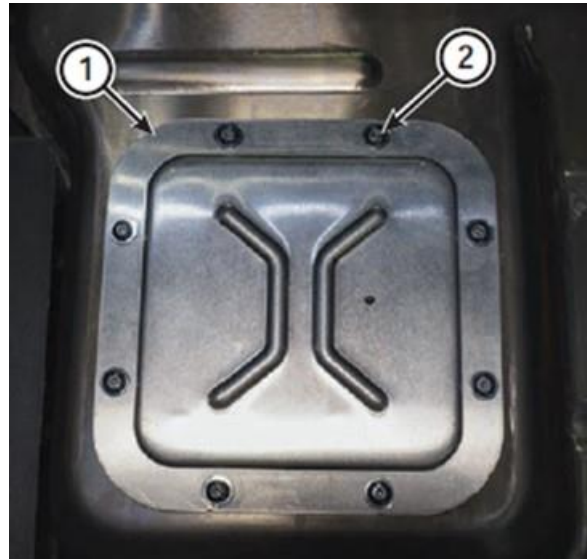

**Figure 3 – High Voltage Test Point Access Cover**
11. The high voltage service test points access cover (1) is located on the battery pack, under driver side rear seat cushion (Figure 3).
12. Remove the M6 Torx screws (2) from the high voltage service test points access cover (1) (Figure 3).
13. Carefully remove the test points access cover (1) and set in a protected location such that the cover plate alignment and HVIL pins are not damaged (Figure 3).